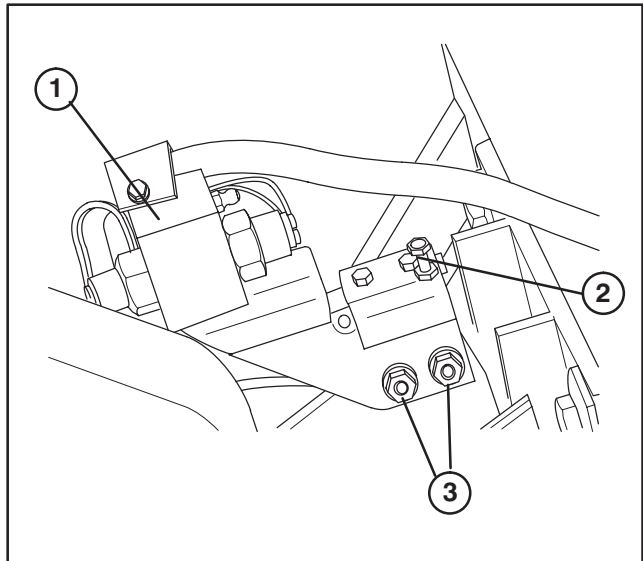

Figure 18
5. Check coring head switch (Fig. 18) with a continuity tester or ohm meter and replace if damaged. The switch plunger must be depressed when the coring head is in the raised position.
- D. Loosen adjusting screw jam nut and (2) flange nuts (Fig. 18).
- H. Tighten adjusting screw jam nut and (2) flange nuts.